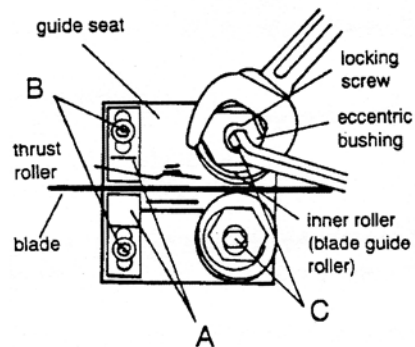

Figure 10
2. Loosen blade guides (A, Figure 10) by loosening screws (B). Slide blade guides away from blade.
3. Loosen locking screws (C) by using a hex wrench.
5. Tighten locking screws (C).
6. Slide blade guides back into contact with blade and tighten screws (B).